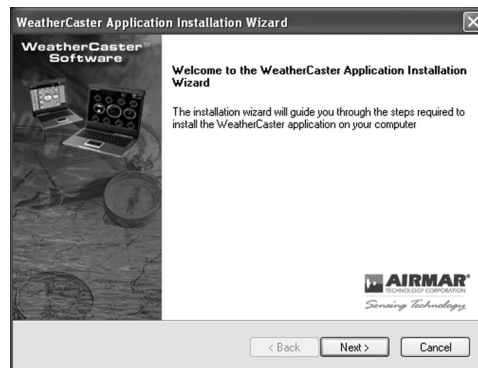

Figure 3. WeatherCaster Installation Wizard window
4. The WeatherCaster Installation Wizard window will appear (see Figure 3). Click Next to continue.